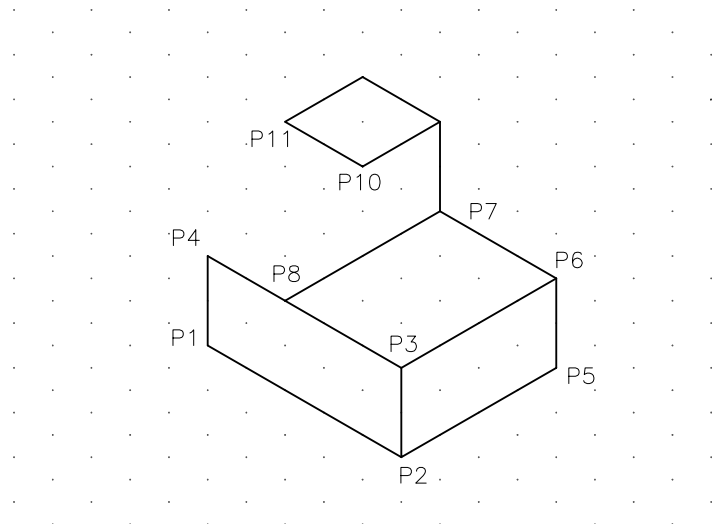

Figure 24-12 Drawing the remaining lines
5. Similarly, draw the remaining lines, refer to Figure 24-12.